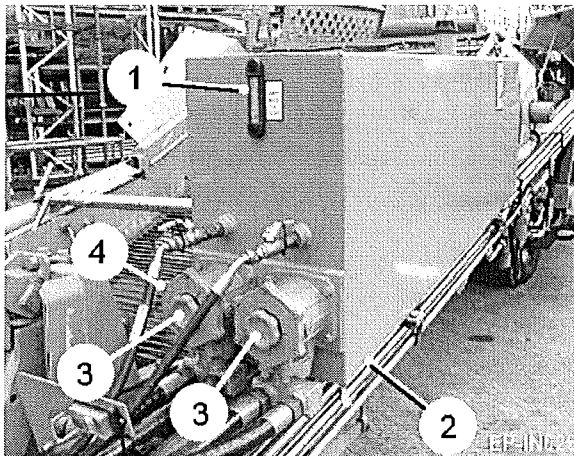

Fig 28
To extend the life of the hydraulic system, the hydraulic oil should be carefully monitored. The hot oil level should be kept within the level gauge (item 1, figure 28) Maintain the level by topping up or refilling with Esso Nuto 46 Hydraulic Oil. If the oil becomes cloudy, water may have become mixed with the oil, and the oil should be changed. Tank capacity is approximately 380 litres.
The oil tank magnetic plug (item 2, figure 28) should be removed and cleaned annually. The plug is also used to drain the reservoir, so if the oil is not being changed a temporary 3/4" BSP plug should be used to seal the tank and minimise oil loss.
1. Wind the suction filter knob (item 3, figure 28) fully out anti-clockwise to close the cut off valve within the filter housing.
2. Release the screws (item 4, figure 28) holding the filter lid. A small amount of oil will be lost from the filter body.
5. Wind the suction filter knob (item 3, figure 28) fully in clockwise to open the cut off valve.